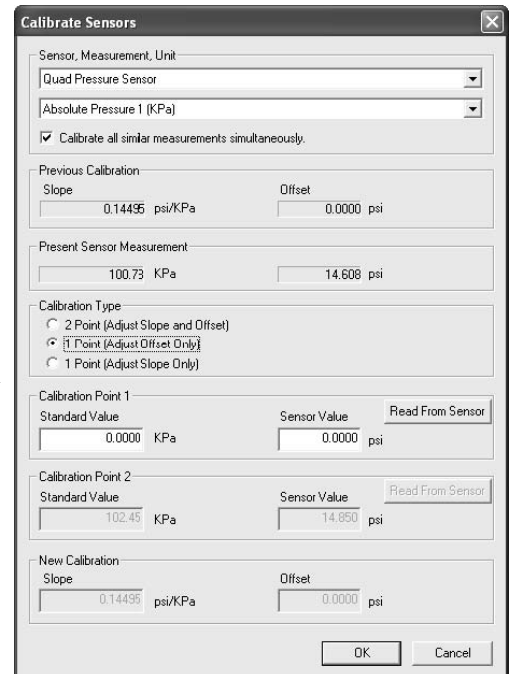

Figure 3: DataStudio calibration window
- 2 Click the **Calibrate Sensors** button to open the calibration window (see Figure 3).